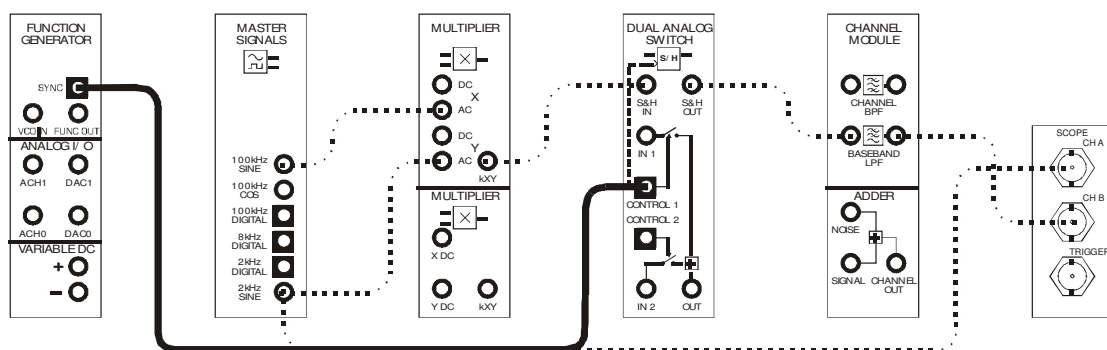

Figure 6
30. Modify the set-up as shown in Figure 6 below.